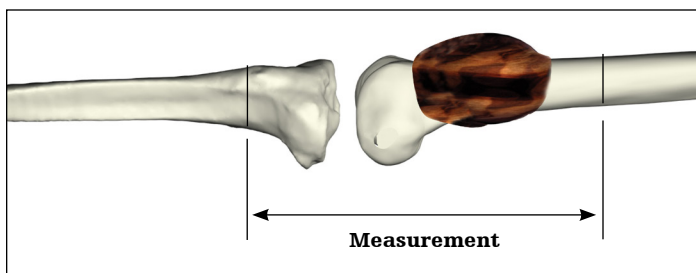

Figure 3
- ▶ **Surgical tip:** As an aid to restoring leg length, a reference measurement can be established across the joint. With a bovie or similar device, a mark is made on the femur, proximal to the femoral resection, along with a mark on the tibia, distal to the tibial resection. The distance between these marks can be measured before the resection is made, and checked again, with the trials or implants in place, after the resection is made (**Figure 3**).